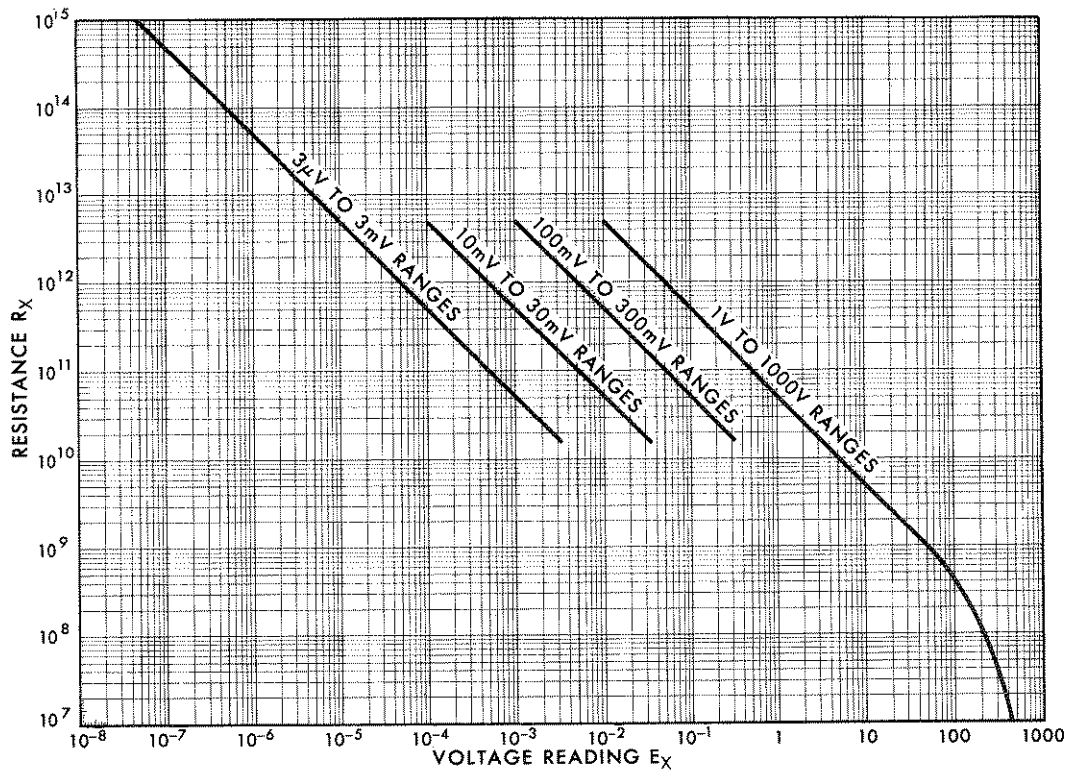

Figure 2.7 Voltage to Resistance Conversion Chart
3. Set generator OUTPUT switch either to + or - position and adjust POWER LIMIT control for a detector reading of 500 volts. (Other voltages may be used, but the conversion chart, Figure 2.7, is intended for use with a 500-volt setting.)
6. Use the conversion chart, Figure 2.7, to convert the voltage reading to the resistance. (If a voltage other than 500 volts was used in Step 3, use the following conversion formula: